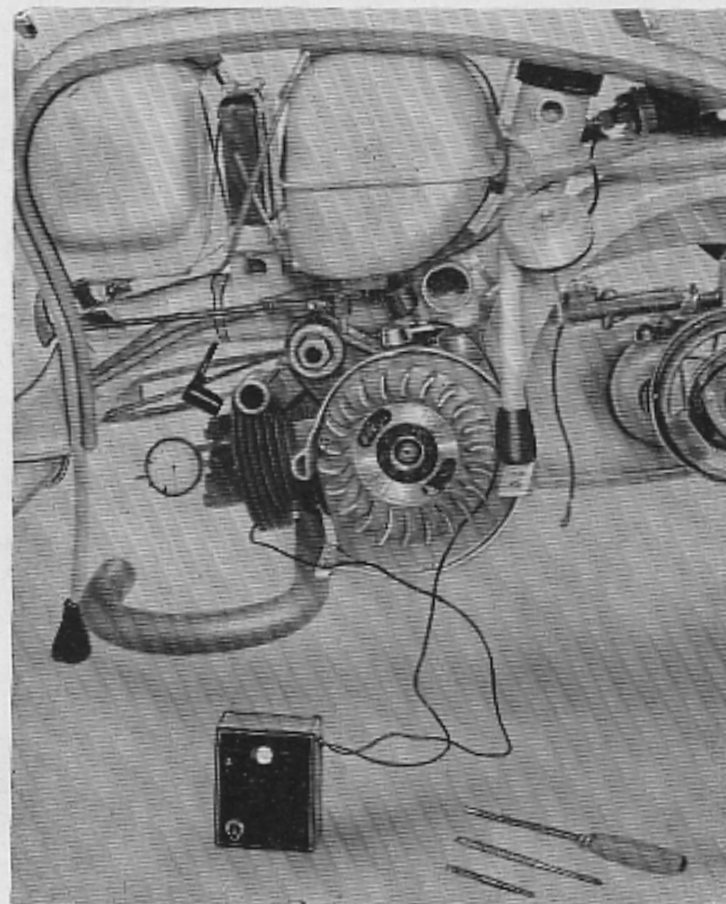

Fig. 41
- 66 Remove cylinder Head (Op. 1, 2, 3, 15, 19, 20, 21, 22, 23, 24 and 25) and fit Tool No. 57988 which can be locked into position by means of two of the four cylinder studs. To this Tool fit the dial gauge. See Fig. 41.
the opposite direction to that shown by the arrow marked on the flywheel). When the tester light goes out or the needle, according to the type of tester, moves, this indicates that the contact points have closed, take the dial reading. This should be between 2.5 and 3.0 mms. corresponding to an angle of rotation of the flywheel of  $23^{\circ} \pm 1^{\circ}$  or to a measurement of 32 to 33 mms. measured on the perimeter of the flywheel. Should the points close before or after the above, remove flywheel (rotating part only), loosen the screws fixing stator plate, move the plate in a clockwise direction to retard or in anticlockwise direction to advance until the moment correct contact point opening is reached. See Fig. 41.